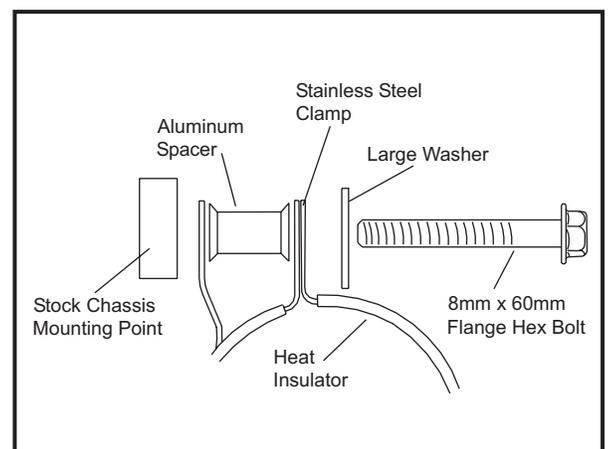

Fig. 3
- 6 Apply heat insulator to inside of muffler clamp and slide clamp onto muffler. (Note direction of clamp in Fig. 3)
- 11 Mount muffler clamp to upper chassis mount using supplied bolt, washer and spacer. (See Fig. 3)